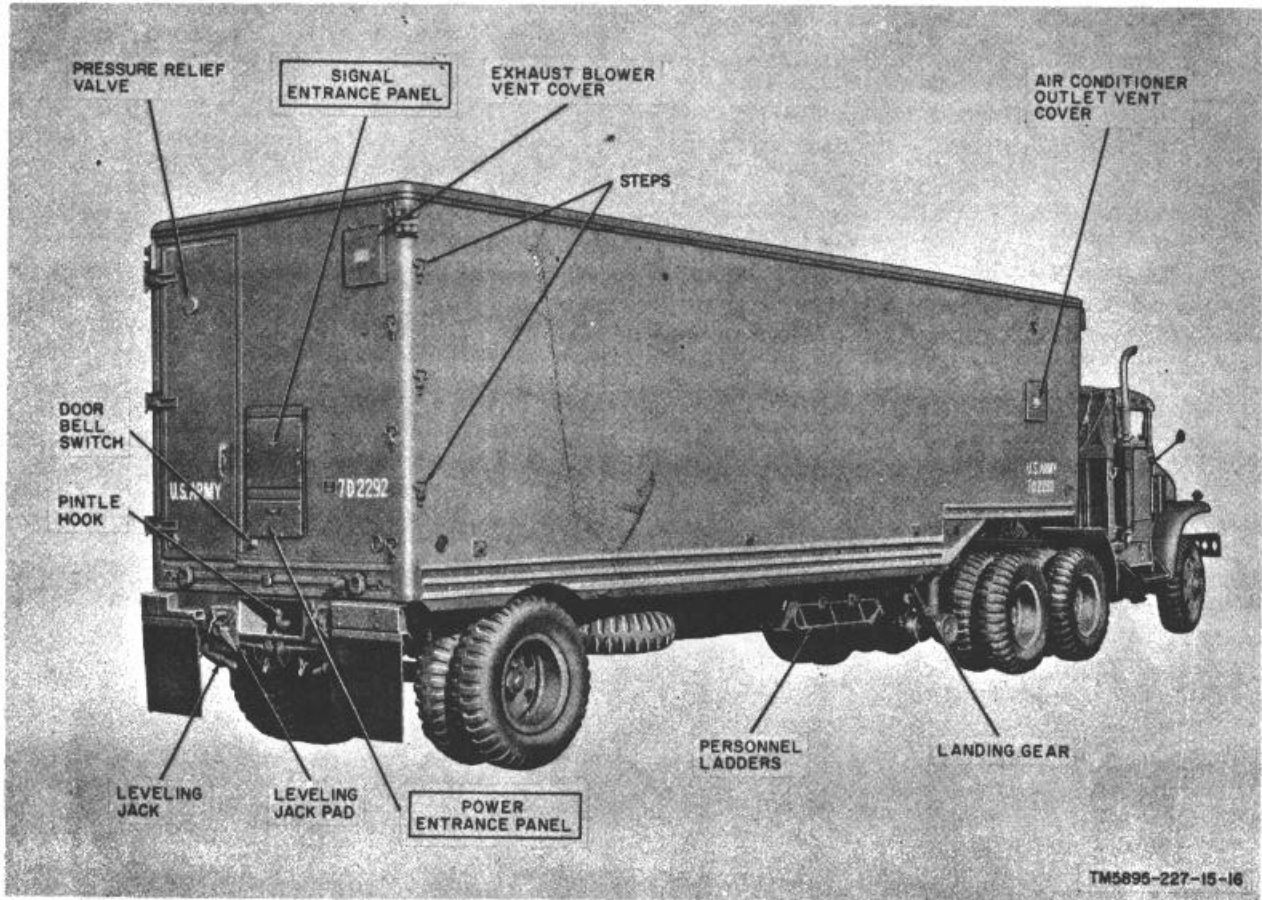
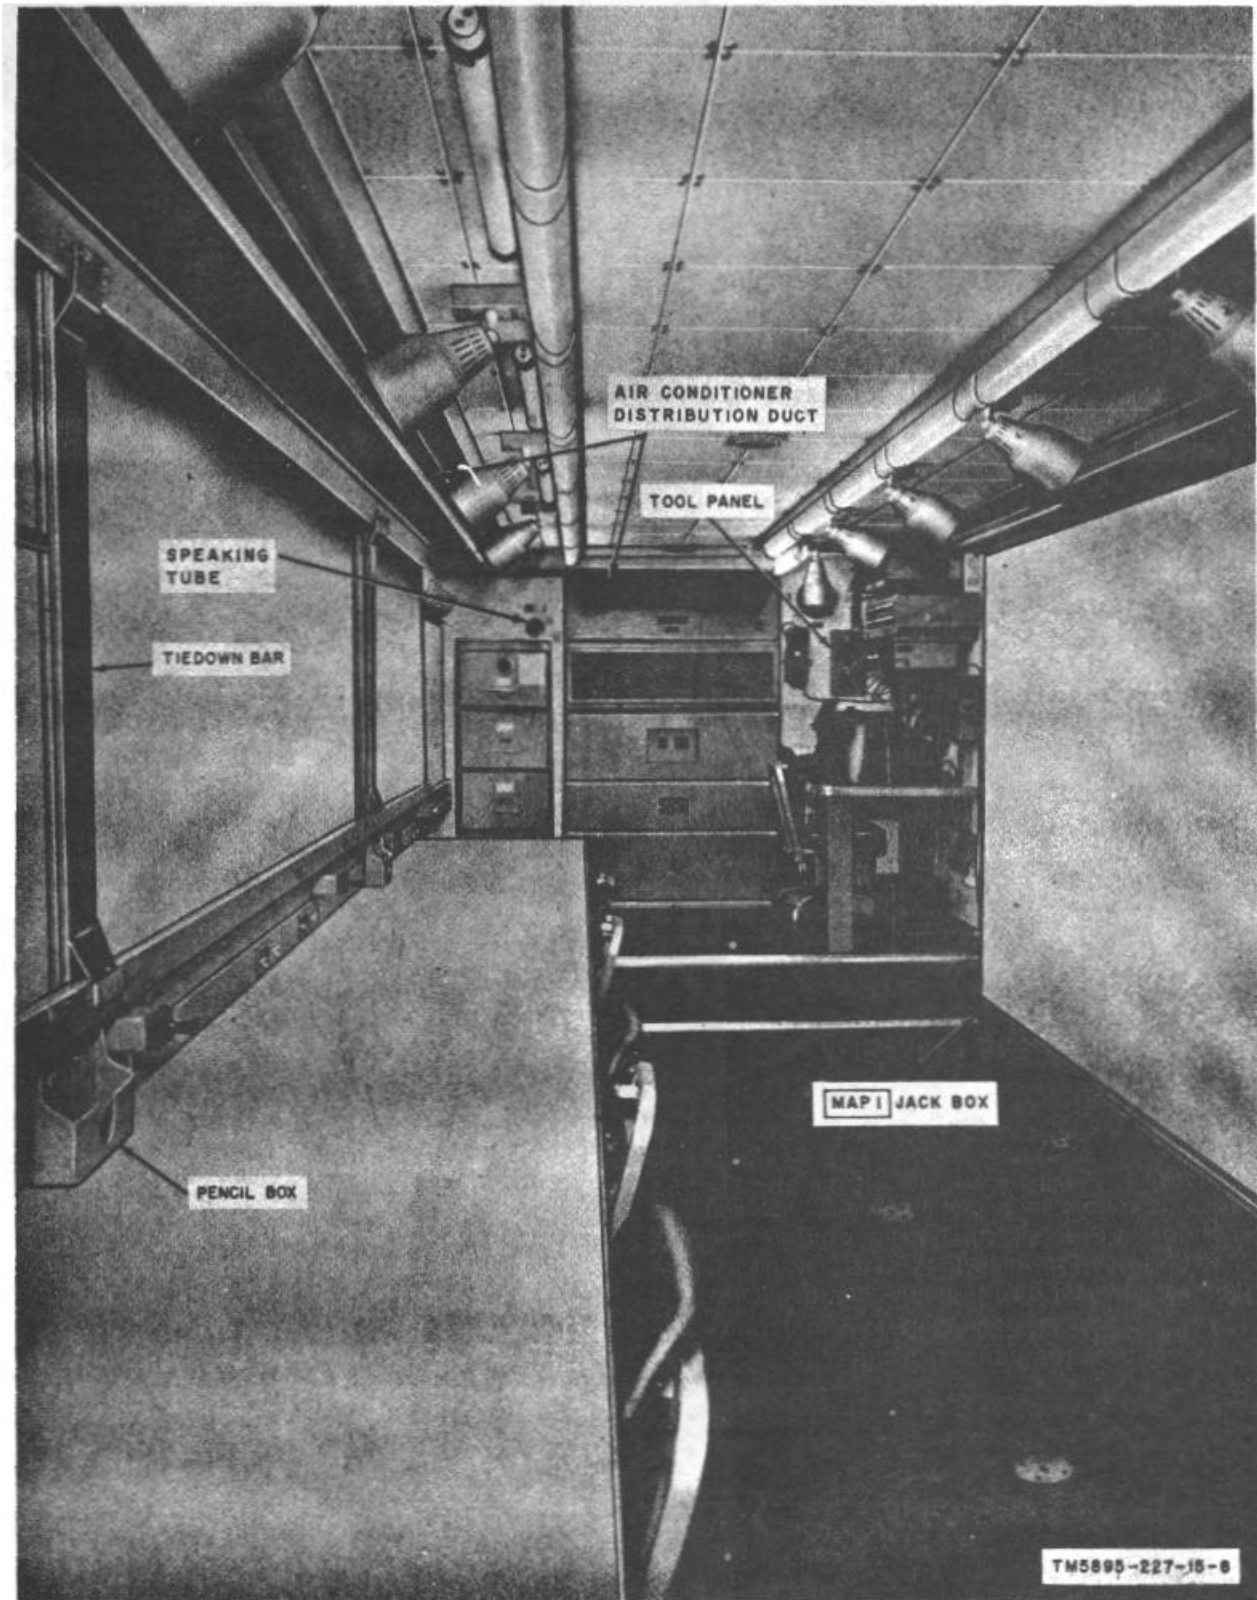
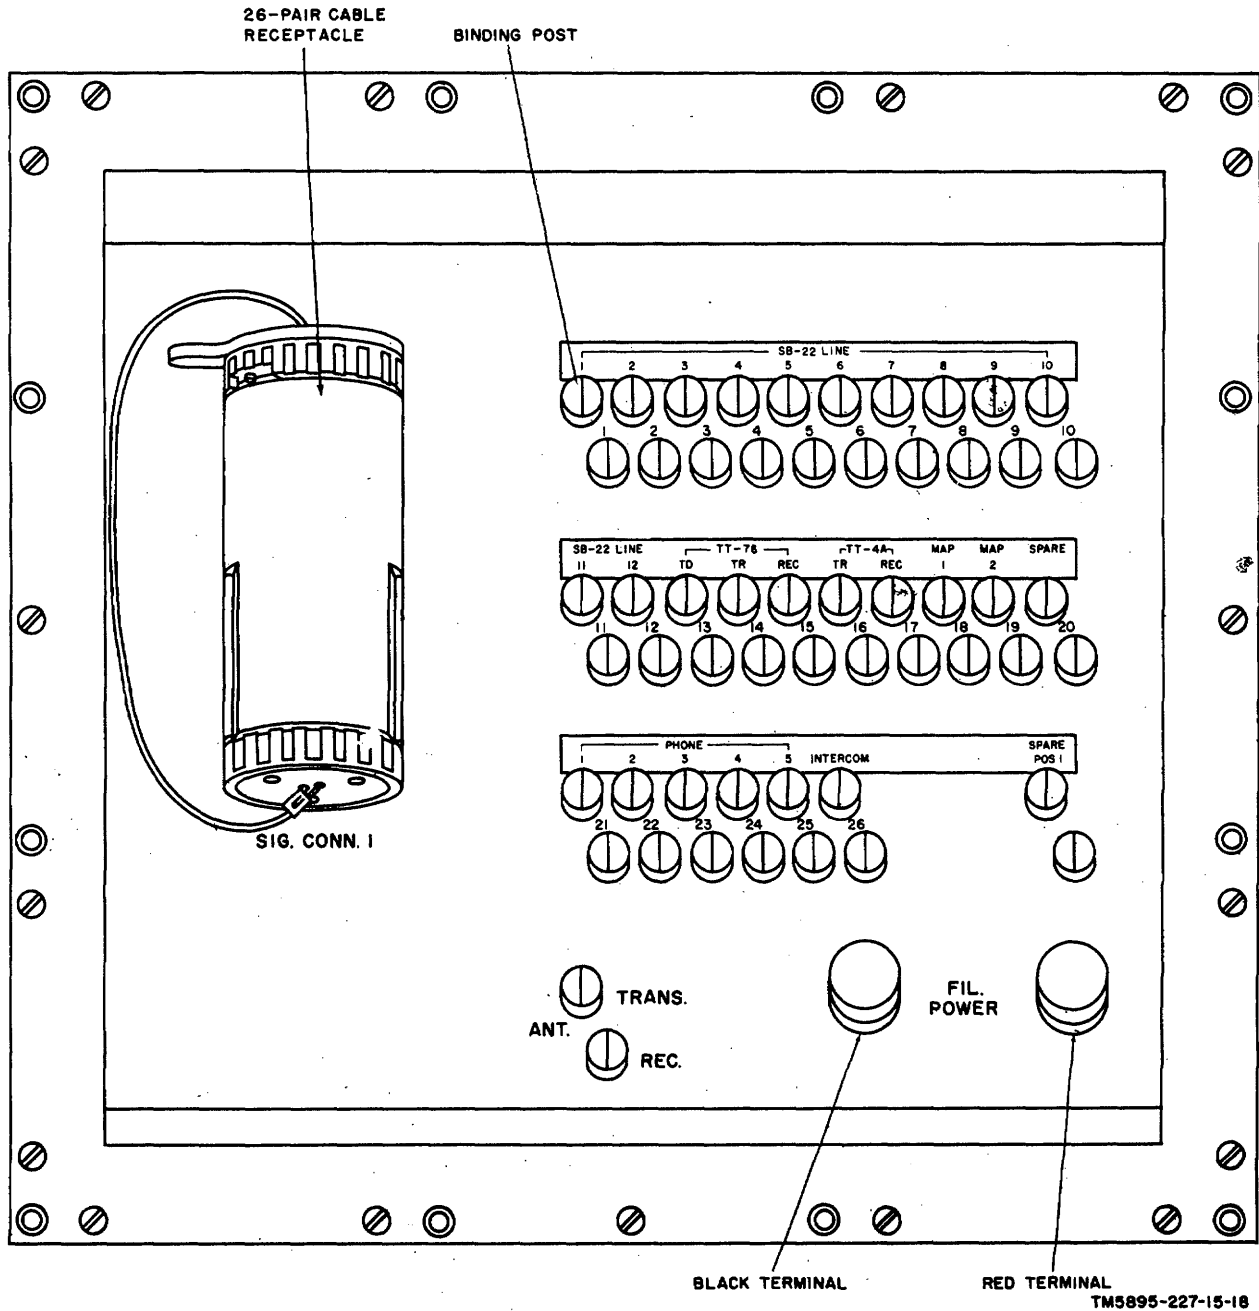
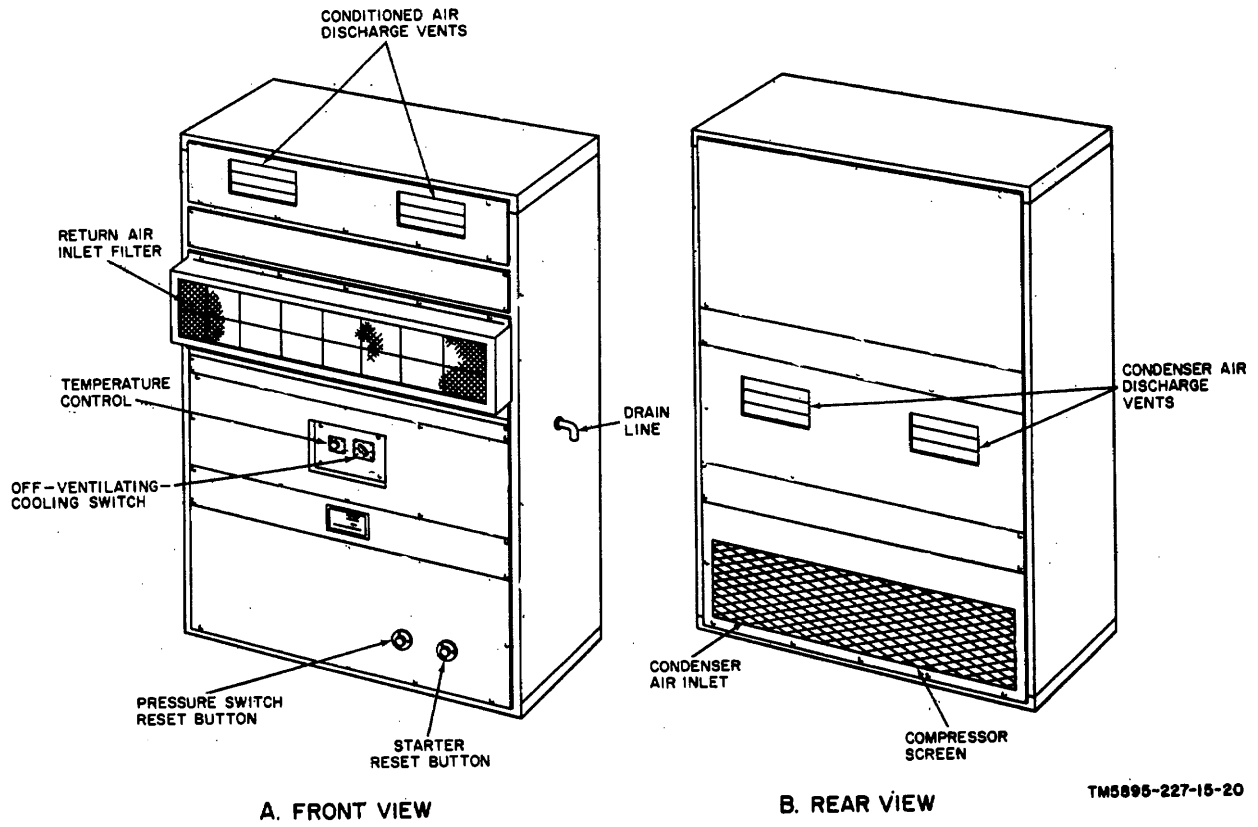

Figure 8. Operations Center, Communications AN/MS-25 and tractor, exterior rear and curbside view.
Figure 10. Operations Center, Communications AN/MSC-25, interior front view.
Figure 12. SIGNAL ENTRANCE panel.
Figure 21. Air conditioner.
rear wall of the van (fig. 8). It contains receptacles for connecting ac power (para. 22) to the van, and a duplex convenience ac receptacle (115V AC) equipped with a spring-loaded watertight cover. The power entrance box cover is equipped with folding side panels (not shown) for weather protection and is secured with captive screw-type fasteners.
- (4) *Signal entrance box*. The signal entrance box (fig. 12) is mounted in the exterior rear wall of the van (fig. 8). It contains a 26-pair cable receptacle and 29 pairs of binding posts. Binding post pairs No. 1 through 26 are for optional use in connecting signal circuits to the AN/MSC-25 (para. 23). The SPARE POS 1 binding posts provide a spare signal circuit to operating position 1 (fig. 15). The ANT (TRANS. and REC.) and FIL POWER binding posts are provided for connecting a radio equipment circuit.
d. *Air Conditioner* (fig. 21). The air conditioner is mounted on the floor and extends through the front partition wall (fig. 16). It can be used for cooling or ventilating (para. 29d). An air duct, connected from the rear of the air conditioner to a lighttight air conditioner outlet vent (fig. 8), provides condenser air discharge to the outside of the van. The air duct connected to the front of the air conditioner (fig. 10) distributes conditioned air throughout the work area.